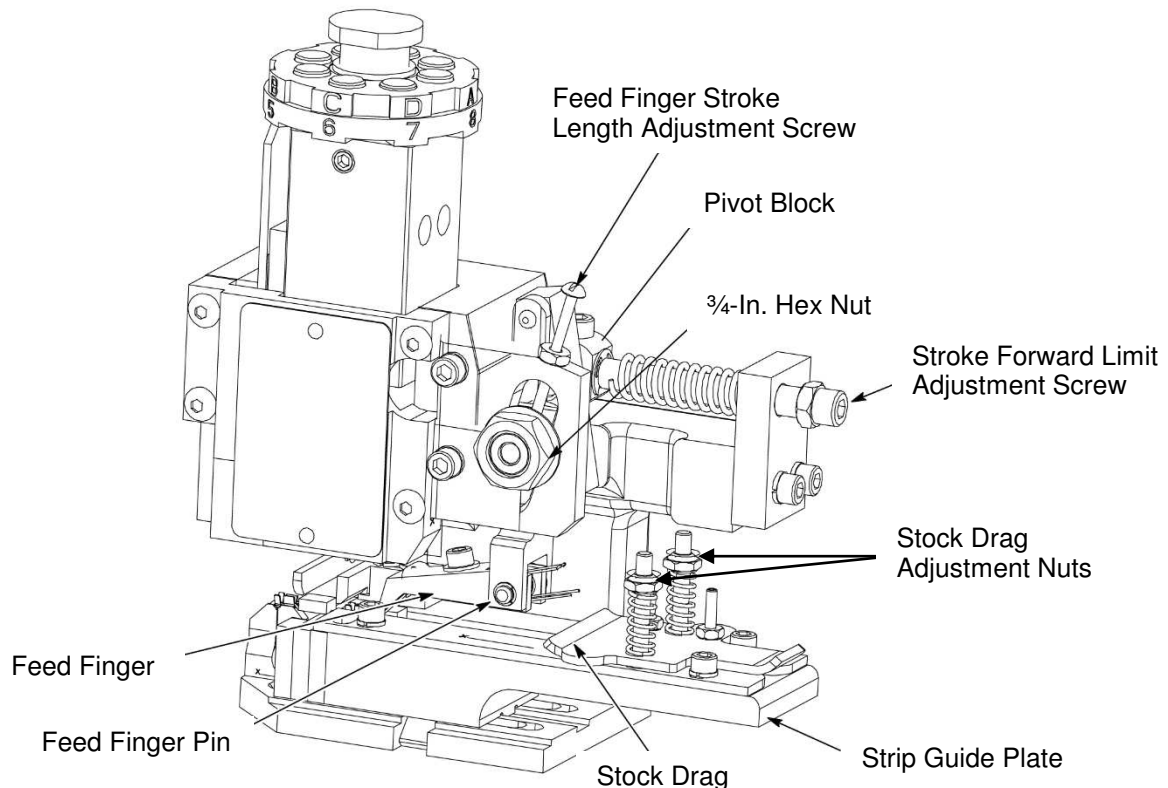
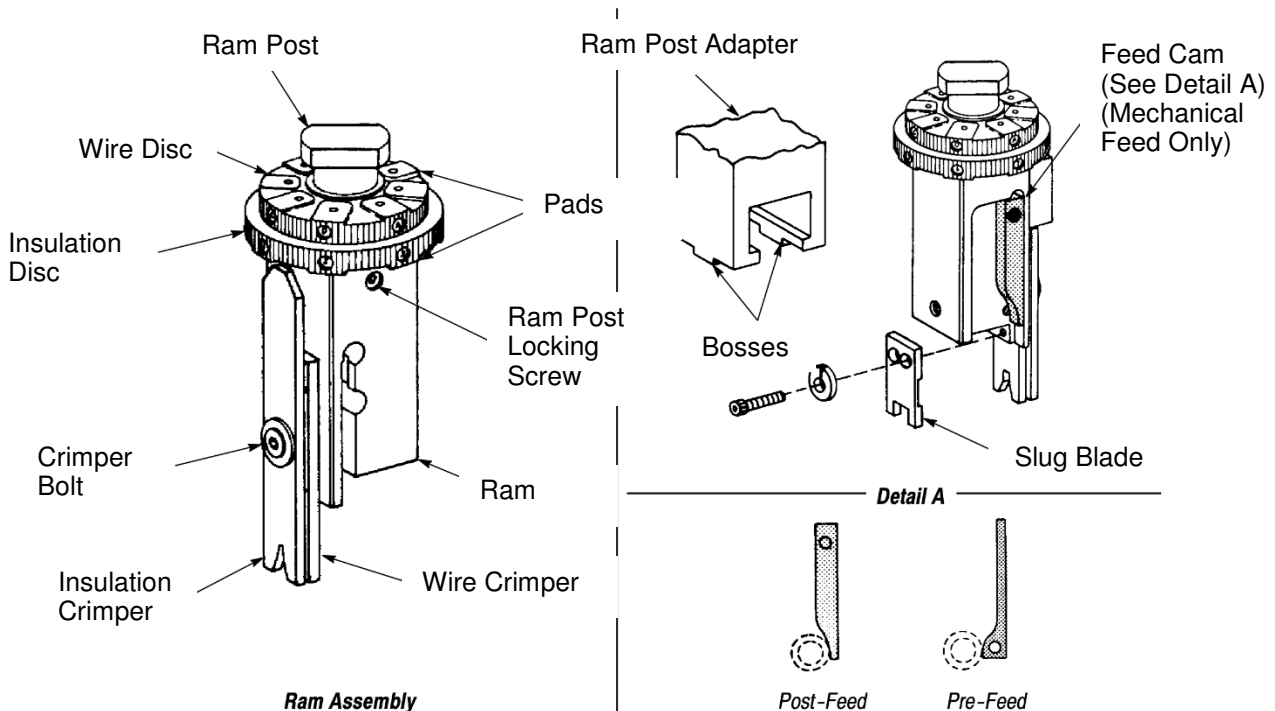

Figure 2
Figure 3
The main components of the applicators with mechanical feed are identified in Figure 1 and Figure 2. The ram assembly is shown in detail in Figure 3. Figure 4 and Figure 5 show the applicators with air feed.
The ram post (also referred to as the ram mounting post) engages the post adapter of the machine ram, and it is the machine ram that actuates the applicator. Just below the ram post are the wire disc and insulation disc. The wire disc has as many as four pairs of pads, depending on the number of different wire sizes the terminals will accept. Each pair of pads has a different height. By rotating the disc, each pair of pads can be lined up with the two bosses on the ram post adapter (see Figure 3) to change the length of stroke of the wire crimper over the anvil. The insulation disc contains eight pads of different heights. When this disc is turned, the pads line up with the top of the insulation crimper to change the insulation crimp height.
2. Turn wire disc (upper disc) to line up selected pad letter with **BOSSSES ON RAM POST ADAPTER** (reference Figure 3). This provides the right crimp height for that wire size.